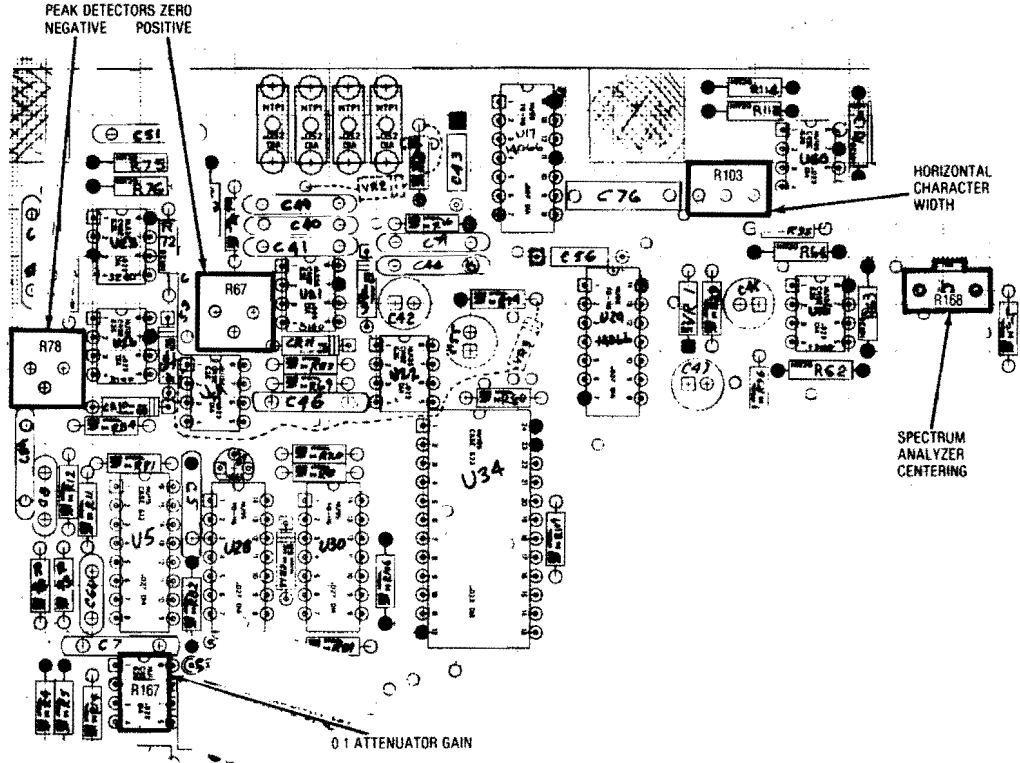

Figure 5-15. Scope/DVM Control Alignment Points
3. Adjust the Spectrum Analyzer Centering Potentiometer on the Scope/DVM Control Board (Figure 5-15) so that the spectral line on the CRT is centered about the center graticule line.